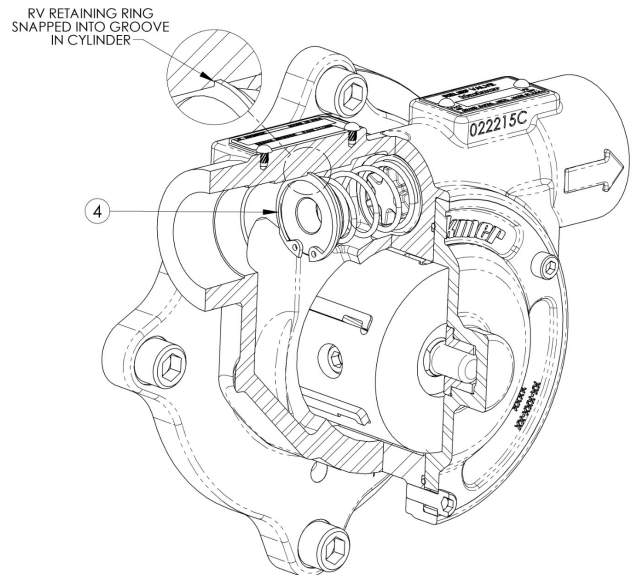

Figure 5 – Correct RV Retaining Ring Position
- a. Remove RV retaining ring (16) using long nosed snapping pliers. Caution: Clip ring carries spring force and may move upon disassembly.
- b. Remove RV retaining ring (16), spring guide (15), spring (14), and relief valve (13).
- c. Insert the valve (13) into the relief valve bore of the casing with the fluted end inward.
- d. Install the relief valve spring (14) and spring guide (15) against the valve.
- e. Insert RV retaining ring (16) by pressing against spring force. **IMPORTANT:** RV retaining ring **MUST** axially fully fit into retaining ring groove in cylinder. Failure to fully support RV retaining ring may lead to catastrophic pump damage if retaining ring becomes dislodged during operation. **NOTICE:** the retaining ring groove does not form a full circle. See Figure 5